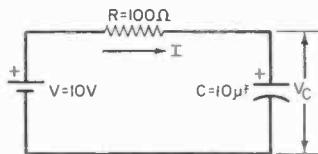

Fig. 4
Ex. 1. For the circuit in Fig. 4, determine  $I$  at (a)  $t = 0$ ,  $I(0)$  and (b) in steady state,  $I(\infty)$ . (c) What is the time constant of the circuit? Sol. (a)  $I(0) = 10/100 = 0.1$  A. (b)  $I(\infty) = 0$ . (c)  $T = RC = 100 \times 10 \times 10^{-6} = 10^{-3}$  s = 1 ms.
Ex. 2. For the circuit in Fig. 4, find the voltage across the capacitor,  $V_C$ , at (a)  $t = 0$  and (b)  $t = \infty$ . Sol. (a) Because the capacitor acts like a short circuit at  $t = 0$ ,  $V_C(0) = 0$ . (b) Because the capacitor acts like an open circuit in steady state,  $V_C(\infty) = 10$  V.
**B. Functions of Time.** For times between  $t = 0$  and  $t = \infty$ , the current and voltage as functions of time for the circuit in Fig. 4 may be expressed by: